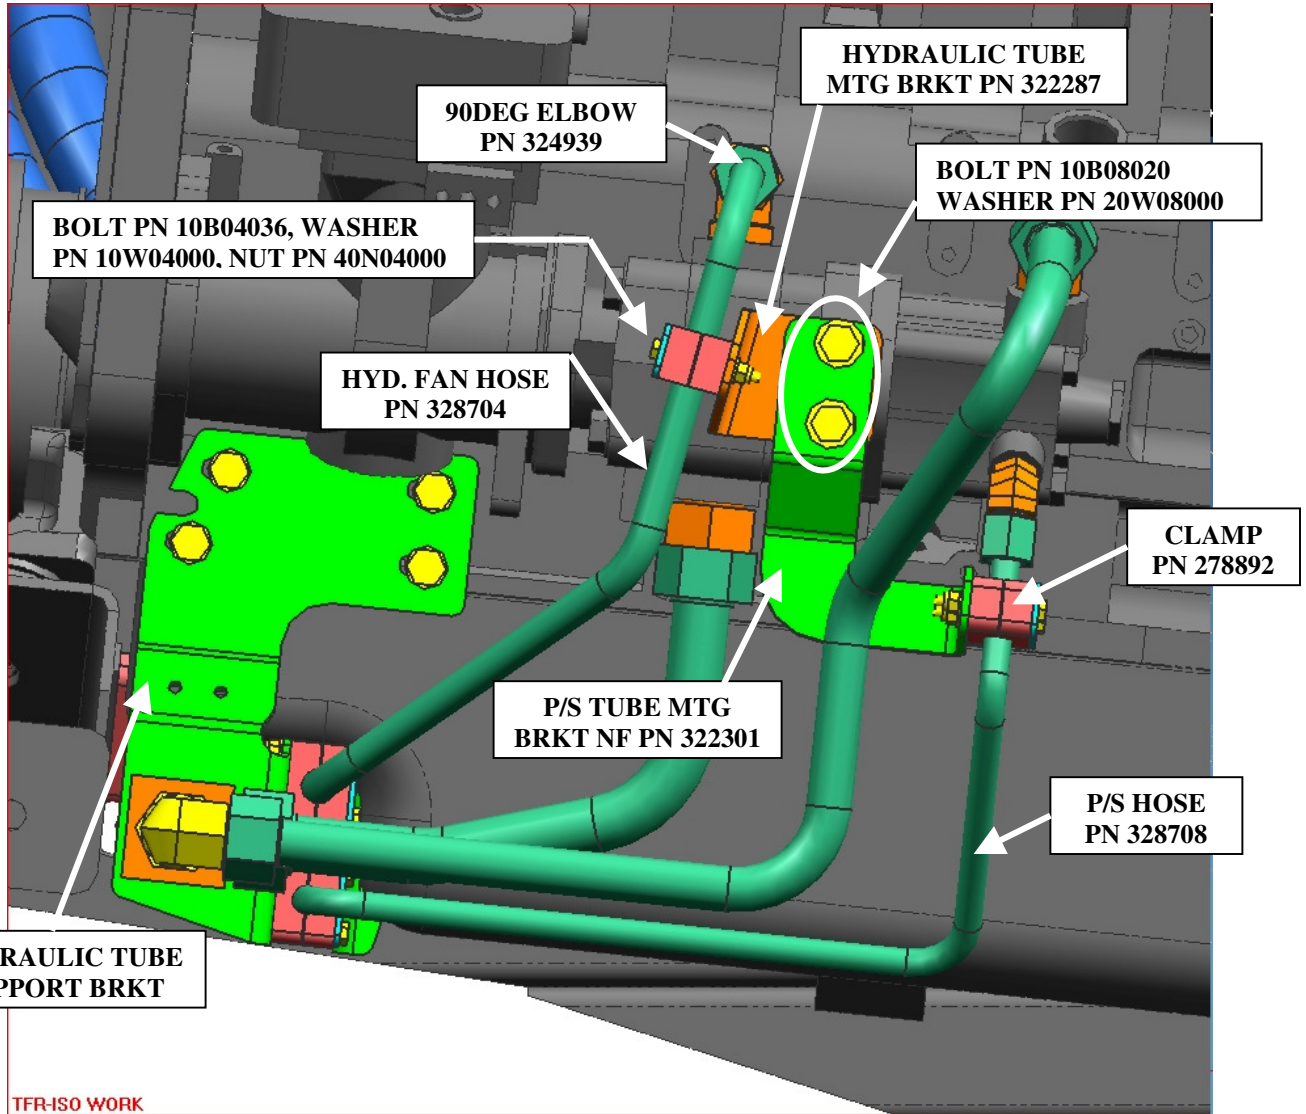

Figure 1 – New Hydraulic Hoses Setup
5. Pre-assemble and install the P/S tube mounting bracket (NF PN 322301) and hydraulic fan tube bracket (NF PN 322287) as shown in Figure 1 using 1/2" UNC Bolt (NF PN 10B08020) and 1/2" Washers (NF PN 20W08000).